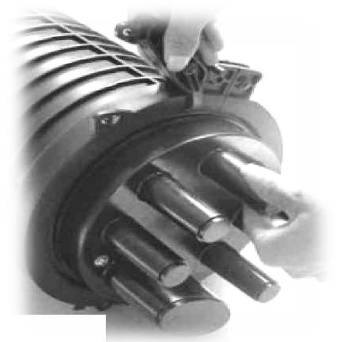

Figure 1
5.1.4. Open the closure (Figure 1.)